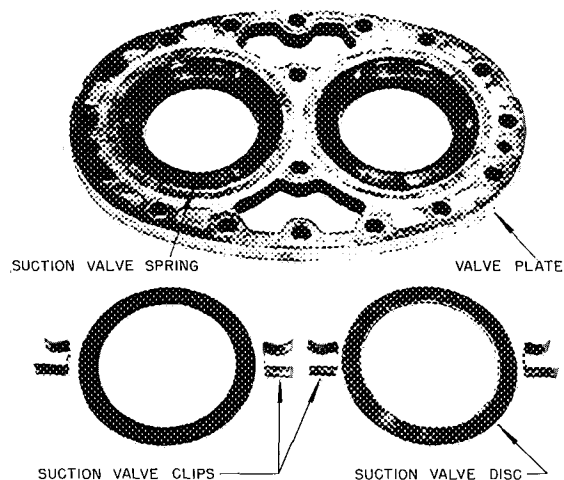

FIG. 19 - VALVE PLATE, SUCTION VALVE AND CLIPS
**NOTE:** Procure the valve retainer clips shown in Fig. 19 before proceeding.